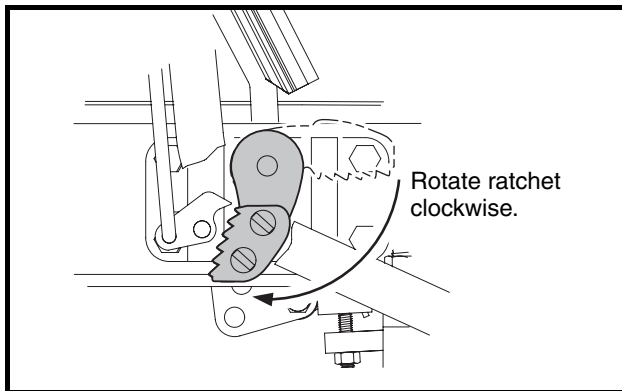

Figure 5-6 Ratchet Installation
7. Install the ball stud (16) through the pivot rod. Install the spring retainer (11) onto the ball stud. Secure these parts with the nut (10). Tighten the nut to 50 in-lb (5.5 N·m).
8. Press the brake pedal slightly, and with the park brake ratchet oriented so that the tip of the ratchet is pointed toward the rear of vehicle, slide the ratchet onto the pivot rod (do not slide the ratchet onto the pivot rod splines). Release the brake pedal and allow the ratchet to rotate until its tip is pointed downward (**Figure 5-6, Page 5-7**). The ratchet should now rotate freely on the rod.